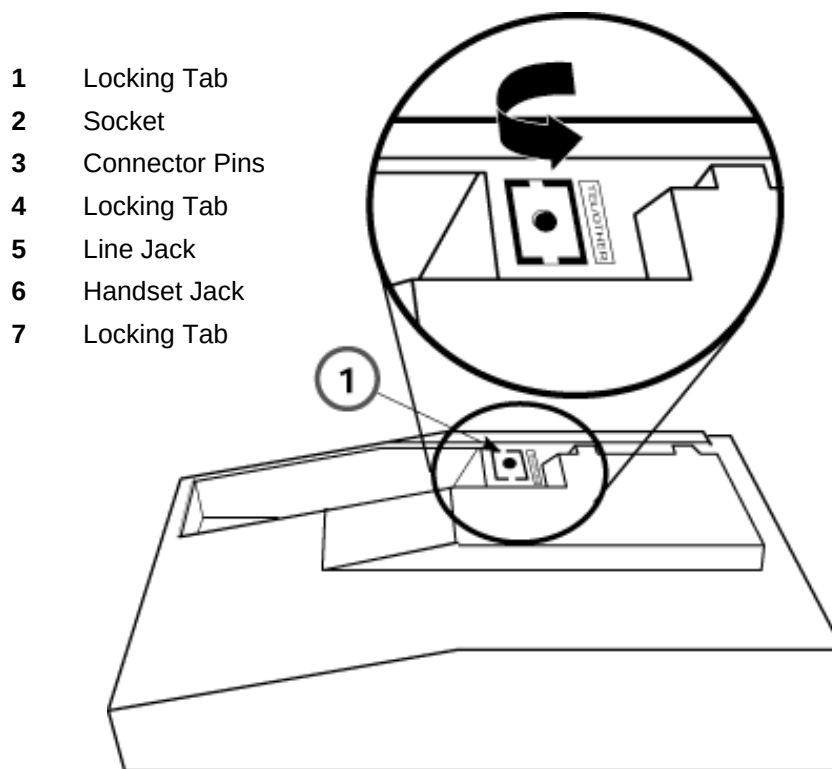

Figure 3-37. Removing the Jack Guard
1. If the module cover has a square jack guard (item 1 in Figure 3-37) that protects the TEL/OTHER jack area, grasp and twist the guard to remove it.